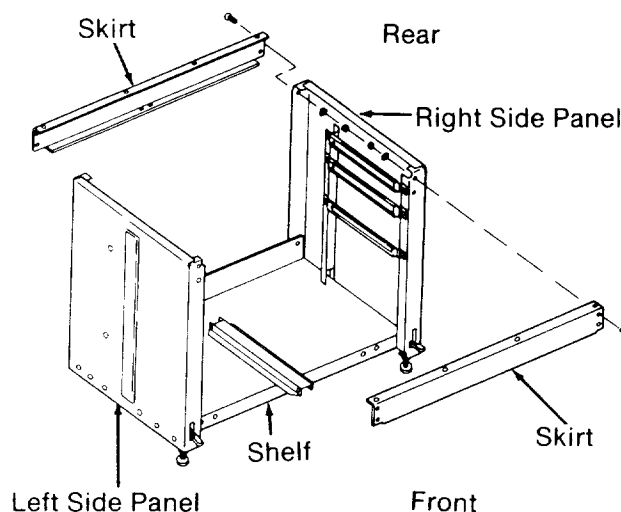

Fig. 37
13. Turn the *cabinet* so that it is on the *wheels*. Attach the *skirts* to the top of the *side panels*, with one on the front of the cabinet and the other on the back. (Figure 37)
14. Use eight truss head bolts to hold the *skirts* in place. Put a lockwasher and hex nut on each bolt and hand-tighten. (Figure 37)